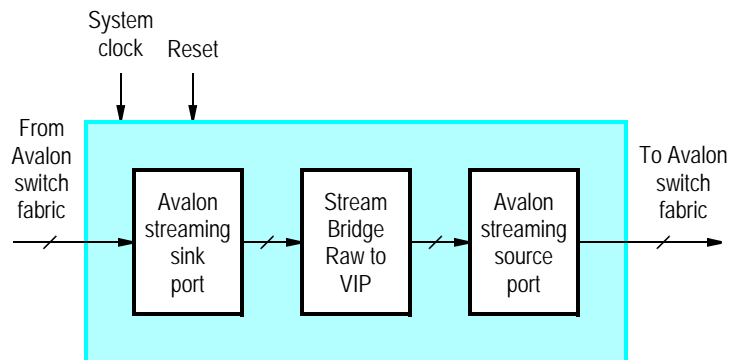

Figure 57. Video-Stream Bridge: Raw to VIP core's block diagram.
The Raw-to-VIP bridge takes an input stream in the University Program (UP) video stream format and converts it to the VIP format. Then, the VIP-formatted data is outputted via the Avalon streaming source interface. Figure 57 shows a block diagram of the core. The UP video stream format is essentially raw video data, as described in Section 2.2.